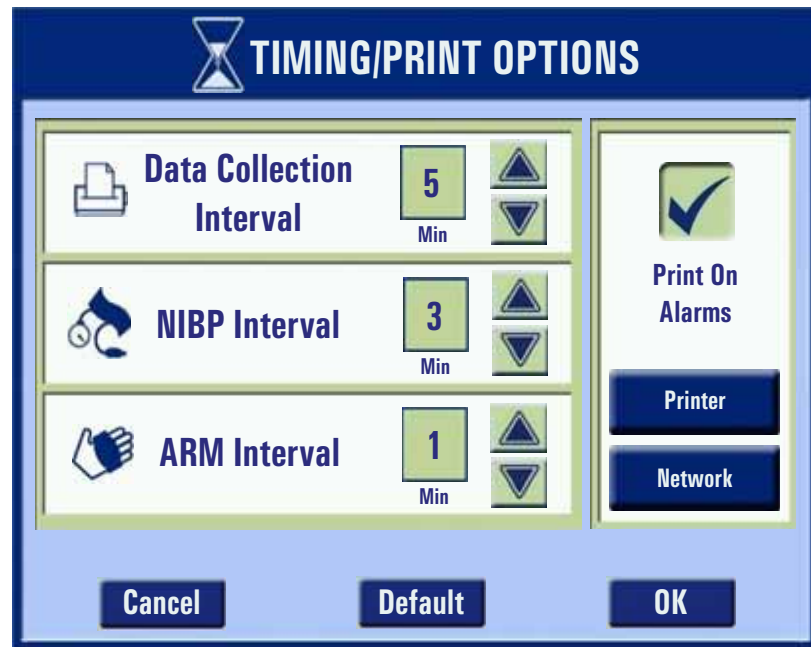

Figure 5-20 PRU Timing/Print Options Screen
5. Enter the Default Gateway configuration using the same values as the IP Address previously entered in Step 3. Press **OK** to return to the PRU Timing/Print Options Screen (refer to Figure 5-20 on page 5-20).